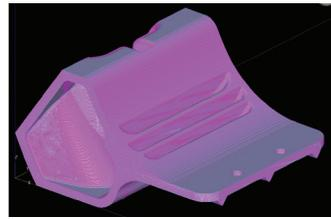

Figure 86: Open and slice the first part.
6.2.1. Open and slice Part 1 (Figure 86).